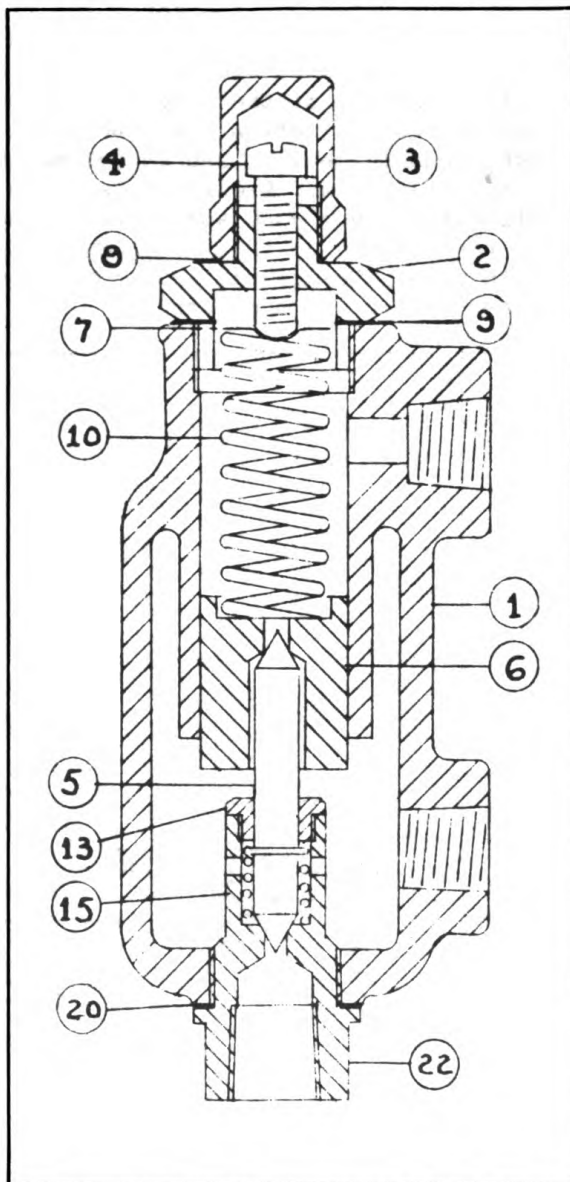

FIGURE 44 FUEL OIL RELIEF VALVE
5. Remove cap, #3, Figure 44..
Clean all parts carefully and reassemble, using Figure 44 as a guide.